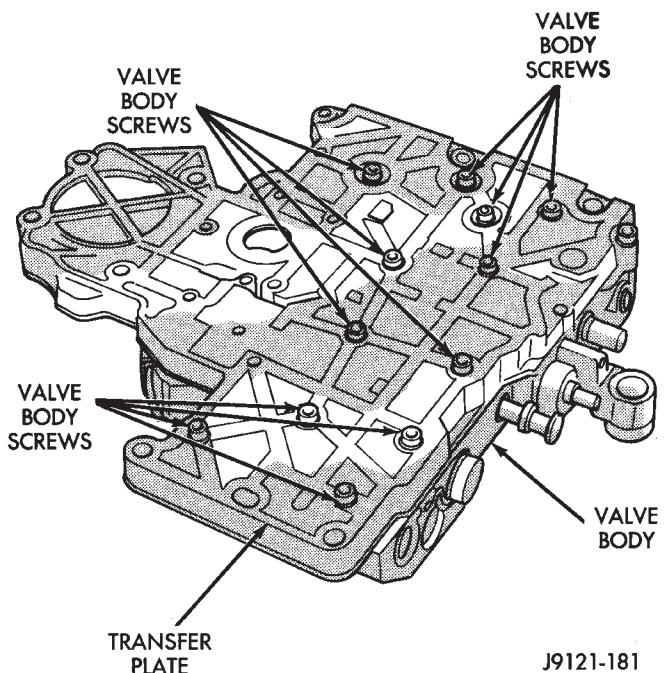

Fig. 112 Valve Body-To-Transfer Plate Screw Locations
(10) Turn valve body over so transfer plate is facing upward (Fig. 112). With valve body in this position, valve body check balls will remain in place and not fall out when transfer plate is removed.
(11) Remove screws attaching transfer plate to valve body (Fig. 112).